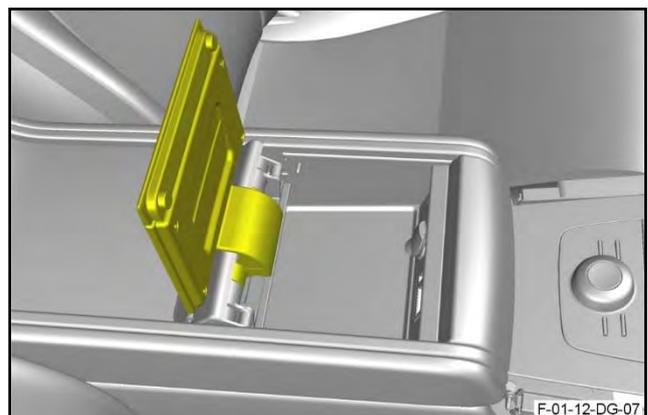

Figure 41
50. Open the door for the front stowage compartment (refer to Figure 41).